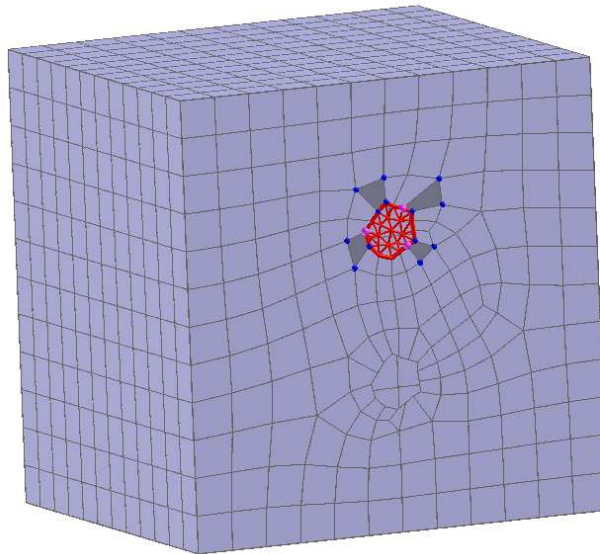

Figure 9.39: Fill hole using triangle elements.
- Pick the nodes until a unique closed loop is identified by the appearance of triangle elements filling the hole as shown in Figure 9.39.